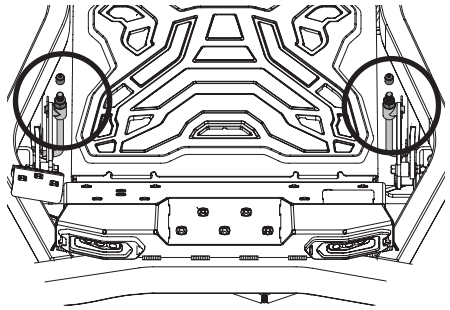

Figure 44
- Remove the end cap on both front deck height adjust rods and save for later re-installation (Figure 44).
- Rotate both front nuts clockwise to raise the front deck pitch or counter-clockwise to lower the front deck pitch, depending on the needed adjustment. Adjust each nut equally (Figure 44).